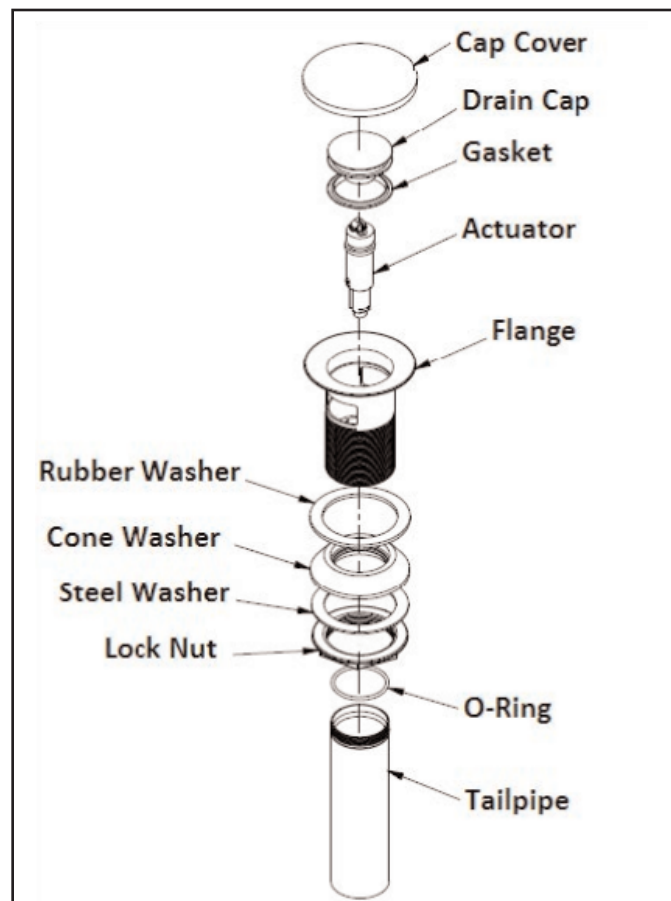

Figure 3
3. Drain assembly not included with 2413. Remove FLANGE, RUBBER WASHER, STEEL WASHER, and discard drain CAP COVER from drain assembly. Place RUBBER WASHER into FLANGE. Then, place FLANGE through the sink hole (Clear silicon may be used in place of RUBBER WASHER). From under side of sink, install CONE WASHER, STEEL WASHER, and LOCK NUT into FLANGE. Thread LOCK NUT firmly. Thread TAILPIPE to FLANGE assembly and assemble TAILPIPE to existing P-Trap. **See Figure 3.**